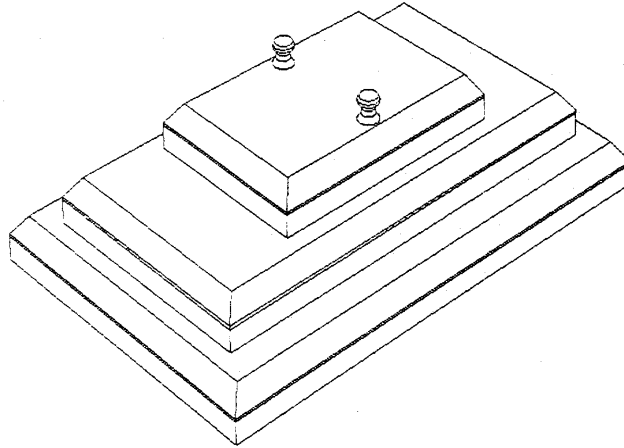

Figure 6-3. Slim-line whole body phantom fully assembled
- The final assembly will form a pyramid. (See Figure 6-3.) It is important that the phantom is placed in exactly the same configuration every time it is scanned.